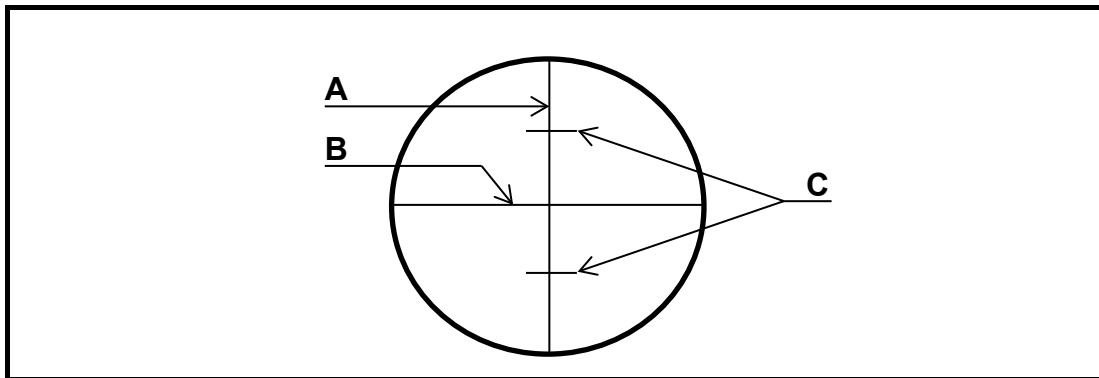

FIGURE 2.8
- 2.8 **Identify** the cross hairs **A** to **C** in the **telescope** of the **dumpy level** in **FIGURE 2.8**.